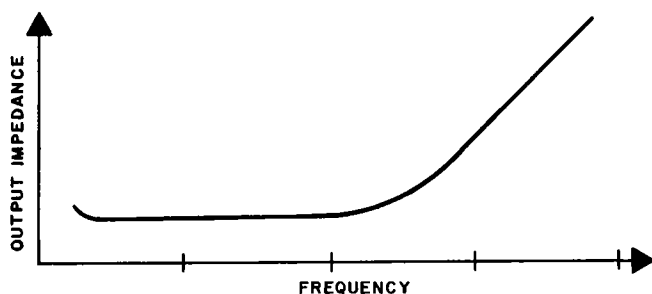

FIG. 3-2 TYPICAL OUTPUT IMPEDANCE VS. FREQUENCY FOR STABILIZED VOLTAGE SOURCES.
- 3-15 **LOAD WIRE SELECTION.** The feedback-stabilized d-c power supply is definitely not an ideal voltage source with zero output impedance at all frequencies. All power supplies of this type exhibit a rising output impedance with increasing frequency (refer to FIG. 3-2).